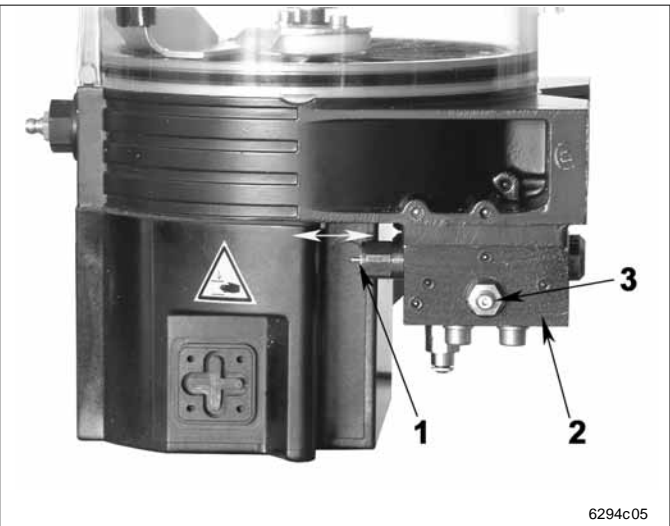

Fig. 6-1 QLS 421 with back position of the SSV divider block
- SSV divider block mounted on the back (Fig. 6-1)
- If this is the case trigger an additional lubrication and observe indicator pin 1 (Fig. 6-1) on the metering device. If the indicator pin does not move, either the system is blocked or the reservoir is empty.